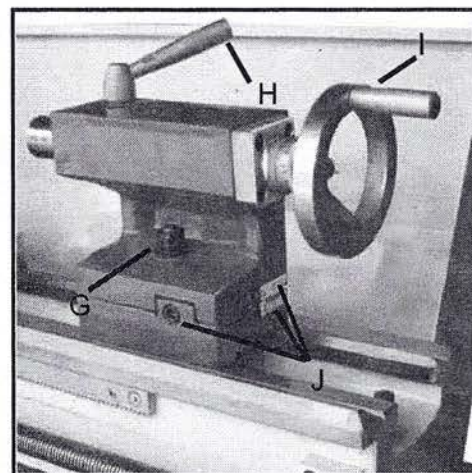

Fig. 16
16. Tailstock Clamping Screw (G, Fig. 16)
17. Tailstock Quill Clamping Lever (H, Fig. 16)
18. Tailstock Quill Traverse Handwheel (I, Fig. 16)
19. Tailstock Off-set Adjustment (J, Fig. 16)